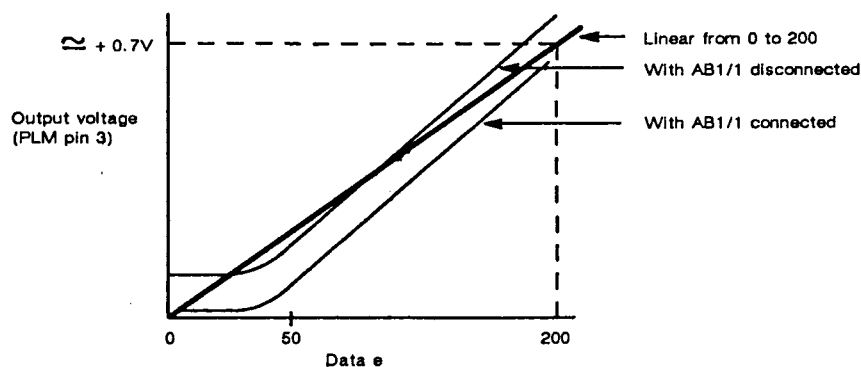

Fig. 5-17 Effect of square-law correction circuit A2/1
85. If the square law correction circuit around IC27 is operating, set latch 13 to 10. The voltage at IC27 pin 10 will be less than 1/20th of the reading than with the latch set to 200, as shown in Fig. 5-17.